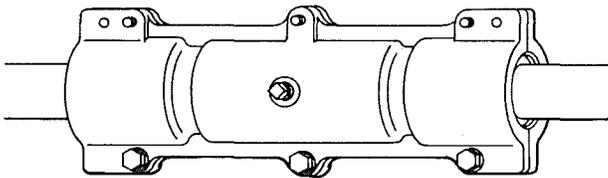

Fig. 18—Installed Splice Case
4.09 Place the front splice case, taking care that the washers, sealing tape, and cords are in position, and place the bolts fingertight. It is not necessary to keep the joint between the splice cases vertical (Fig. 18).